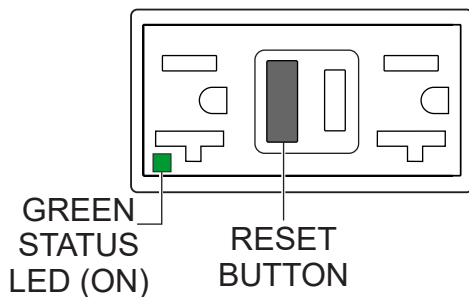

Figure 80. GFCI Receptacle (ON/Restore)
5. Press the **RESET** button (Figure 80) to restore power to the GFCI receptacle and verify that the status LED is **ON (GREEN)**.